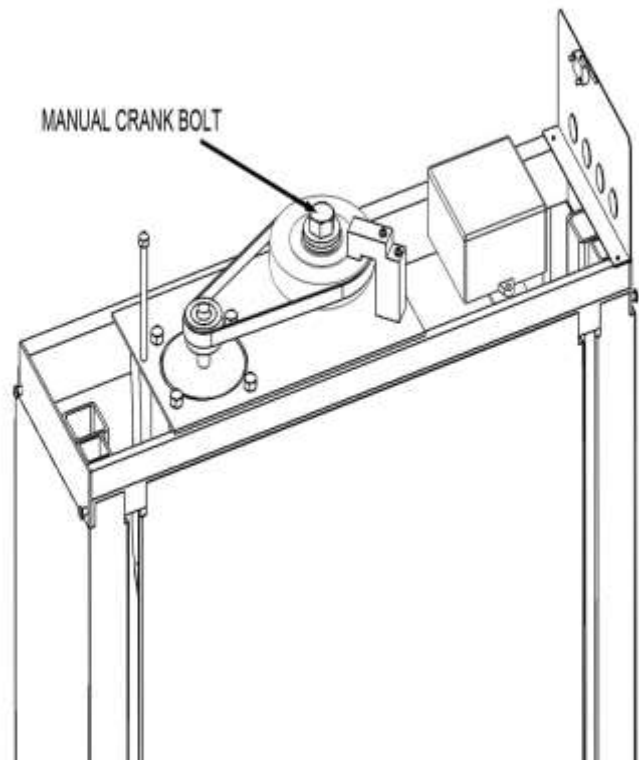

Figure 2: Manual Crank Access
Insert the square end of the Hand Crank Tool through the access hole at the upper right side of the tower (See Figure 2).
- ☒ Use the 15/16" socket and ratchet provided to crank the bolt on the top center of the tower (See Figure 2).